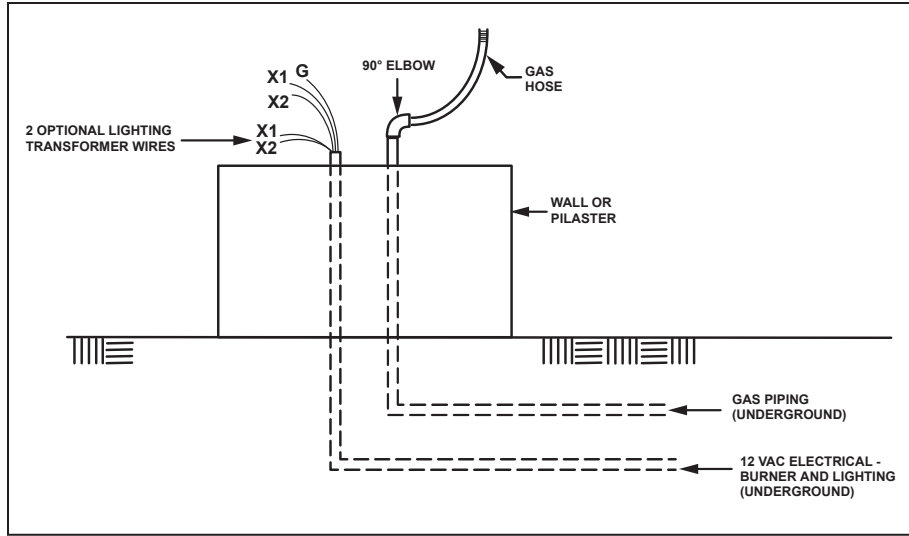

Figure 8. 90° Elbow and Gas Hose Installation
- At each candelere, install a 90° gas pipe elbow on the gas line. Then install the supplied gas hose to the 90° pipe elbow, as shown in Figure 8. Do not kink or make a tight radius bend on the gas hose, and ensure the gas connection is tight with no leaks. Locate the hose out of pathways where people may trip over it or in areas where the hose may be subject to accidental damage.